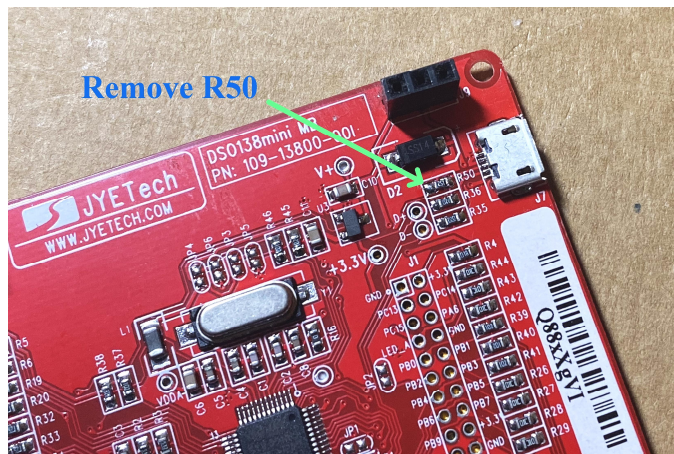

Fig. 1
- 1) Remove the resistor R50 on the mainboard (Fig. 1).